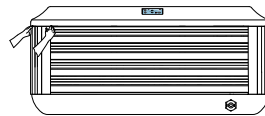
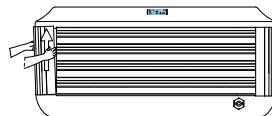

Figure 1
Figure 2
1. Grab one of the corner panels, from the top, where it touches the shell. Then gently pull the panel forward to unsnap it from the holding clips, Figure 1. Tilt the panel forward and then lift to remove, Figure 2. Place the panel in a safe location to prevent from damaging it. Repeat the steps to remove the other corner panel.